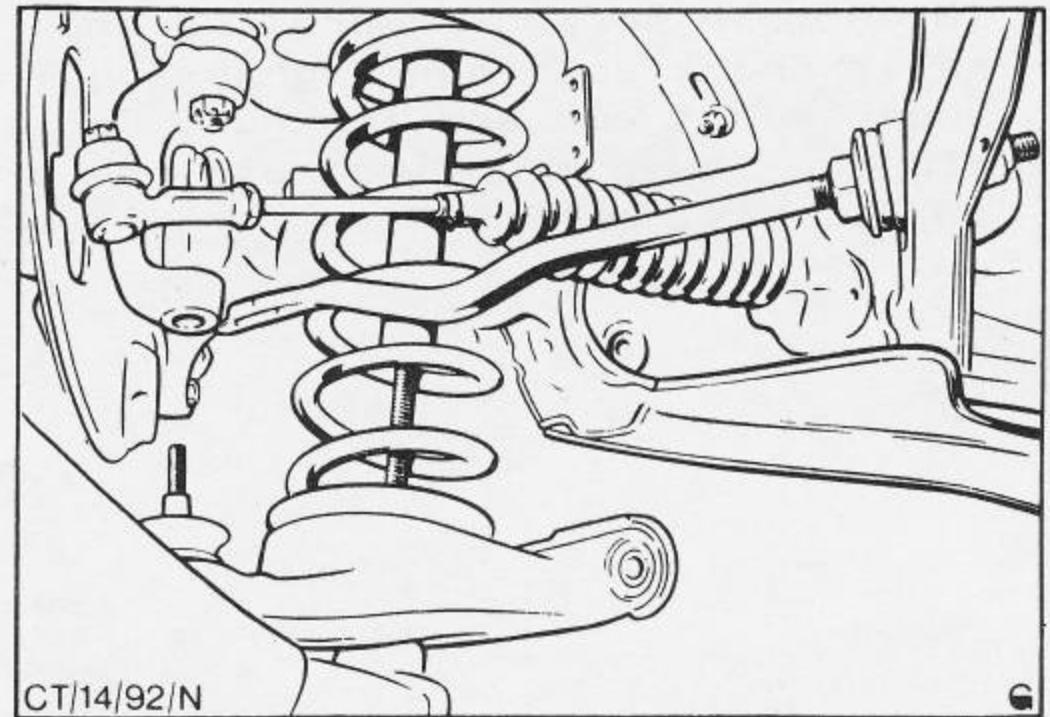

Fig.33 Positioning spring on lower arm.
12. Position spring on lower arm Fig.33 ensuring that lower spring pad is fitted correctly. Also ensure that spring is fitted with the open coil facing lower spring pad and that spring is seated correctly in pad.